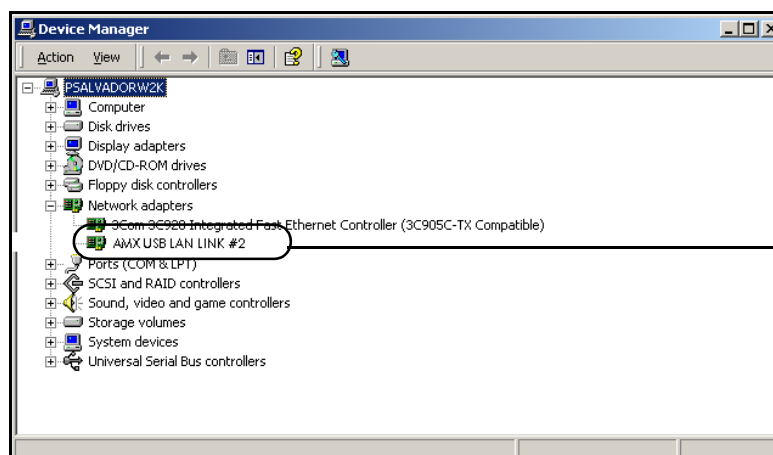

FIG. 35 Device Manager dialog showing USB device
- Within the *Device Manager* dialog, the AMX USBLAN device appears under Network Adapters (FIG. 35) and has a unique name such as AMX USB LAN LINK #2. The number changes depending on which recognized panel is currently connected.